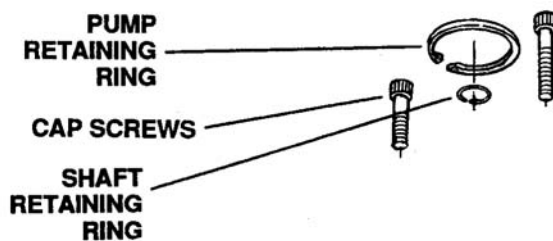

Figure 6-105. Removing Retaining Rings and Cap Screws
- a. Remove the pump retaining and shaft retaining ring. See Figure 6-105.